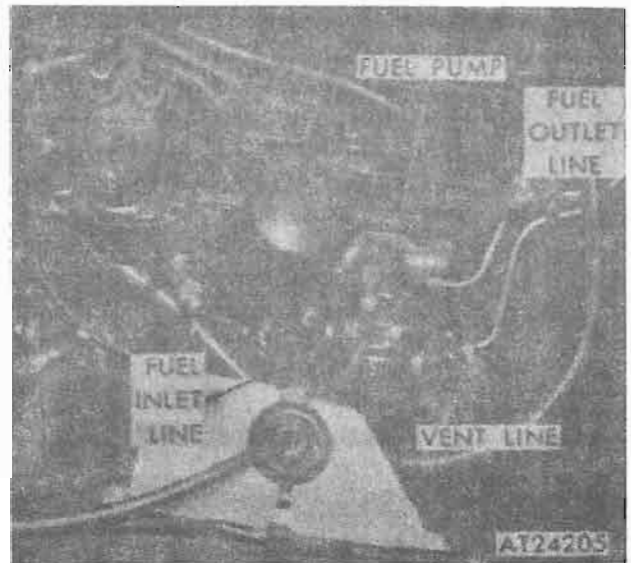

Figure 4-60. Fuel pump.
b. *Fuel Pump—M151A2, M825 and M718A1 Vehicles* (fig. 4-60). Disconnect fuel inlet line and tape end. Remove outlet and vent lines. Remove pump and gasket from cylinder block. Discard gasket. Refer to TM 9-2320-218-20.